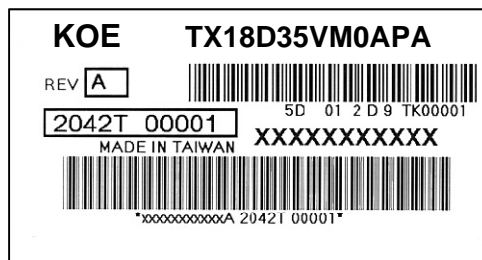

Fig 14.3
4) The location of the lot mark is on the back of the display shown in Fig. 14.3.